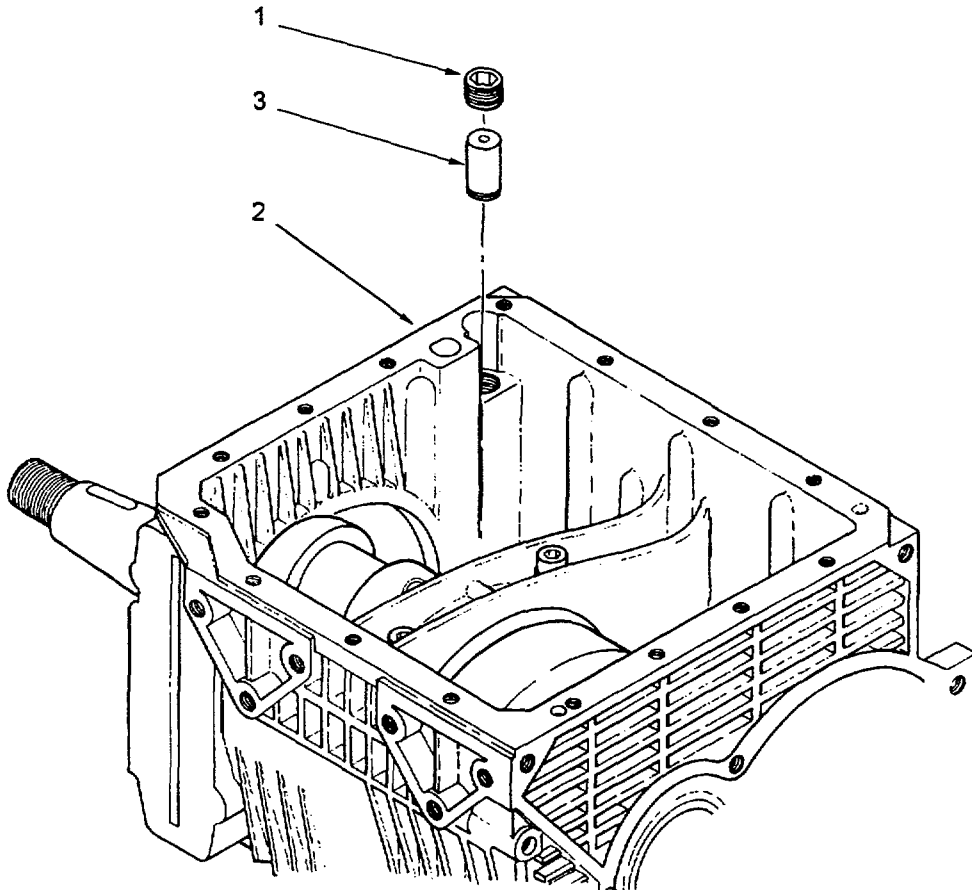

Figure 6-20. Oil Pressure Relief Valve Removal
6.3.19 Remove Oil Pressure Relief Valve. (Refer to figure 6-20.)